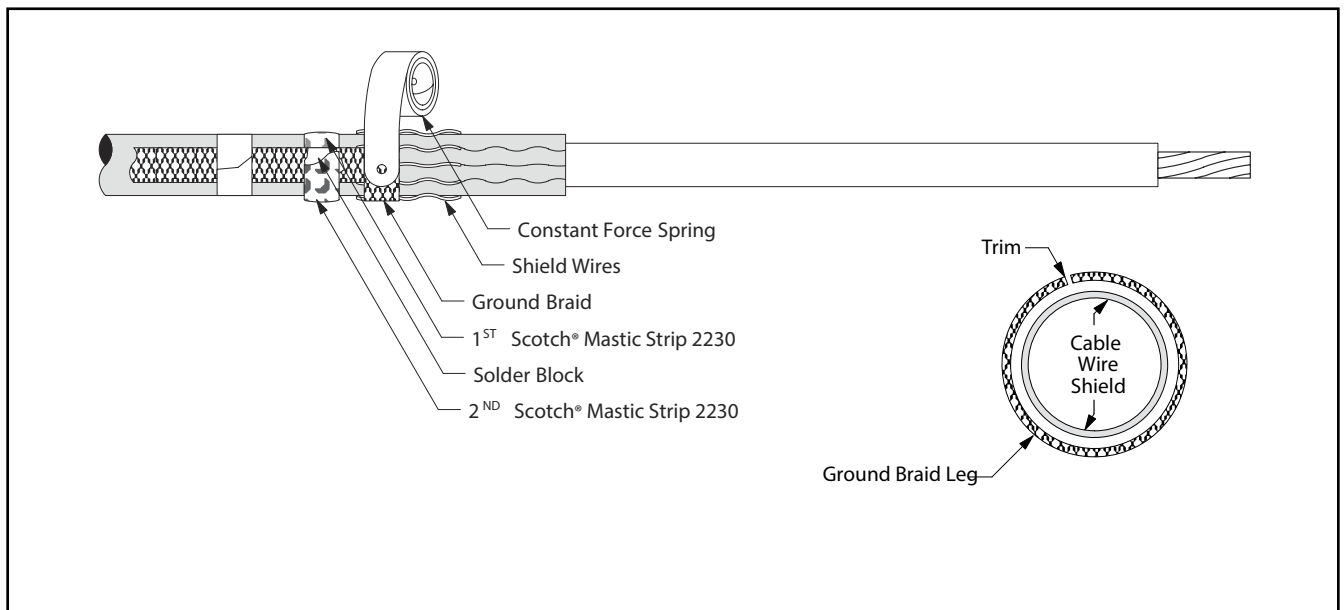

Figure 21
- 12.3 Wrap ground braid around cable shield wires one complete wrap, trim excess to prevent overlap and secure in place with constant force spring. Wrap spring in same direction as ground braid (*Figure 21*). Cinch (tighten) the spring after wrapping the final winding.
- 12.4 Select second Scotch® Mastic Strip 2230 from kit and remove white release liners. Apply a second **SINGLE WRAP** of mastic over solder block on ground braid and previously applied mastic (*Figure 21*). Cut off excess.